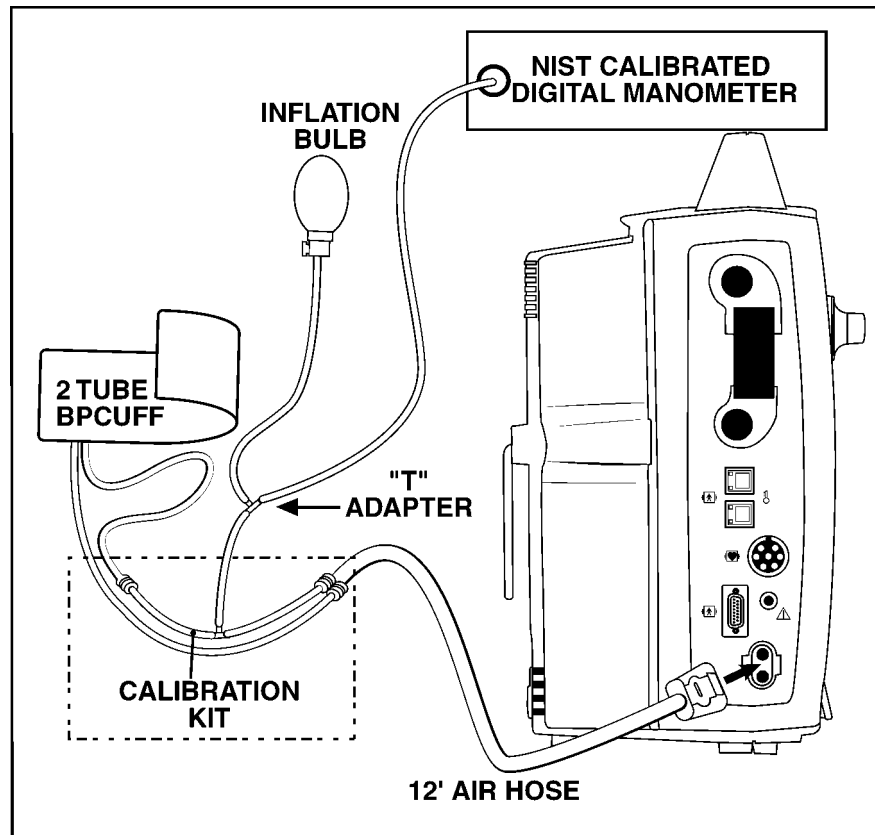

Figure 4-1. NIBP Test Setup
- Using the calibration kit (part number 320-246), an adult cuff and air hose, and a manometer, set up the equipment as shown in Figure 4-1. Connect the hose to the NIBP Parameter. Make sure all fittings are tight, and that the inflation bulb valve is closed tightly.
1. Using the calibration kit (part number 320-246), an adult cuff and air hose, and a manometer, set up the equipment as shown in Figure 4-1. Connect the hose to the NIBP Parameter. Make sure all fittings are tight, and that valve on inflation bulb is closed tightly.